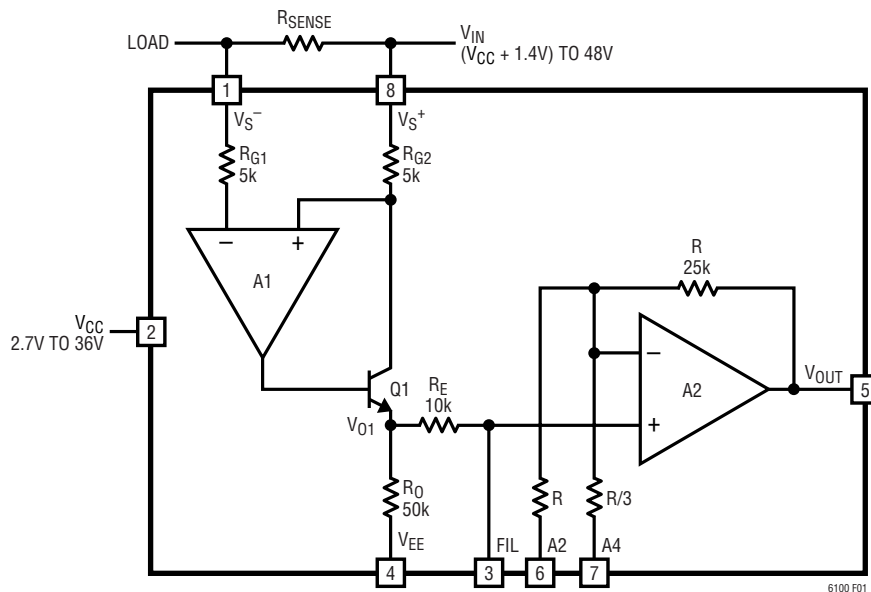

Figure 1. Functional Diagram
**VS+ (Pin 8):** Positive Sense Input Terminal. Connecting a supply to VS+ and a load to VS- will allow the LT6100 to monitor the current through RSENSE, refer to Figure 1. VS+ is connected to an internal gain setting resistor RG1 = 5k. VS+ remains functional for voltages up to 48V.
The LT6100 high side current sense amplifier (Figure 1) provides accurate unidirectional monitoring of current through a user-selected sense resistor. The LT6100 features a fully specified 4.1V to 48V input common mode range. A high PSRR  $V_{CC}$  supply (2.7V to 36V) powers the current sense amplifier and the internal op amp circuitry. The input sense voltage is level shifted from the positive sense power supply to the ground reference and amplified by a user-selected gain to the output. The buffered output voltage is directly proportional to the current flowing through the sense resistor.
### Theory of Operation (Refer to Figure 1)